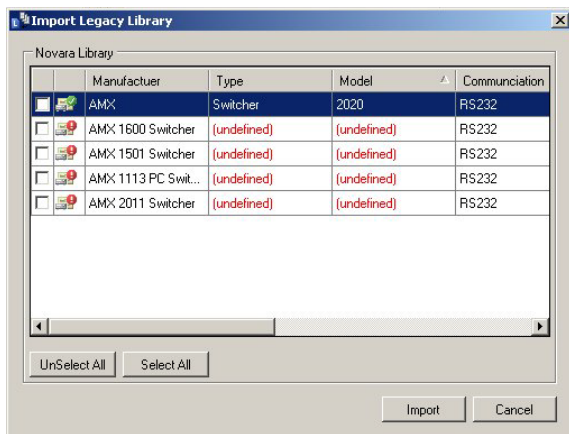

FIG. 32 Import Legacy Library Dialog
3. Navigate to a directory containing Novara (*.plr, *.prp) or Solecis (*.txt) device libraries and select a library file. The Import Legacy Library dialog opens (FIG. 32).